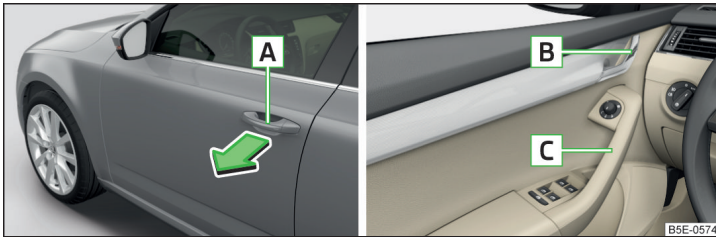

Fig. 39 Door handle/door opening lever
- Pull on the door handle  in the direction of the arrow » Fig. 39.